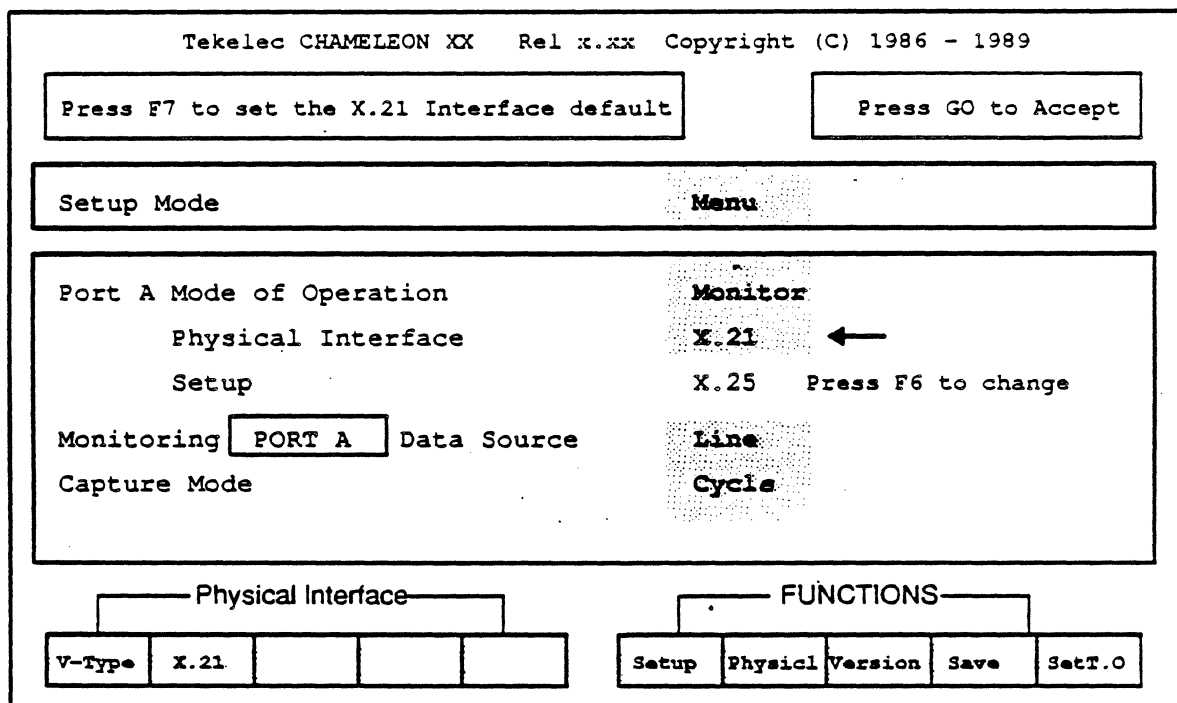

Figure 18.2: Main Configuration Menu (Chameleon 32)
2. Power up your Chameleon and display the main Configuration menu (Figure 18.2). Note that the display shown is for the Chameleon 32. The display for a Chameleon 20 will be similar with the exception of the Physical Interface options.